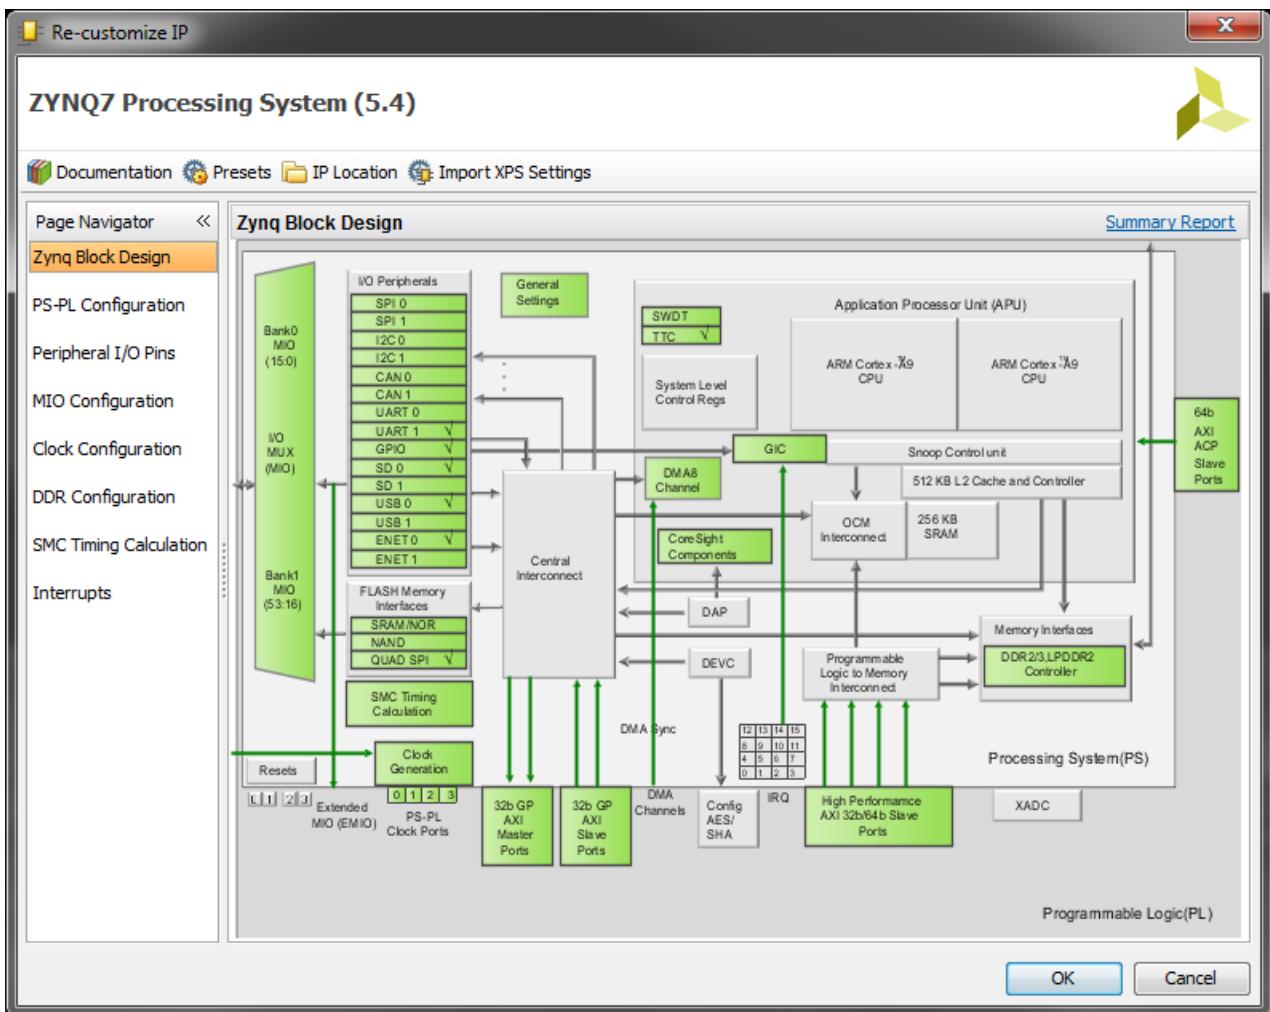

Figure 5.8: Re-customize IP window for Zynq PS
- (d) Double-click on the **Zynq7 Processing System** block to open the Re-customize IP window, as shown in Figure 5.8.